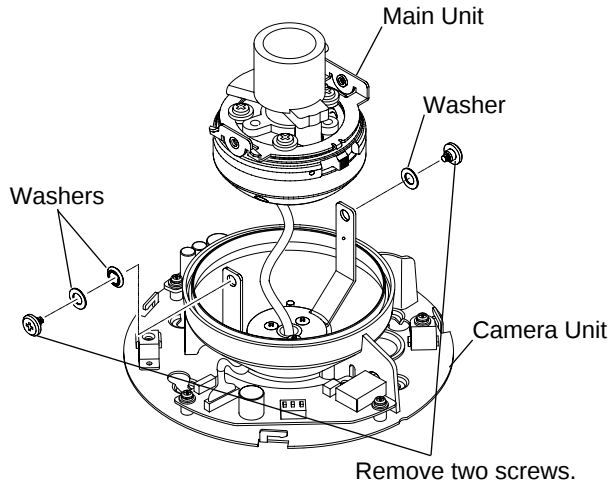

Fig. 2-3
- Referring to Fig. 2-3, remove two screws and three washers that secure the Main Unit, and remove the Main Unit from the Camera Unit.